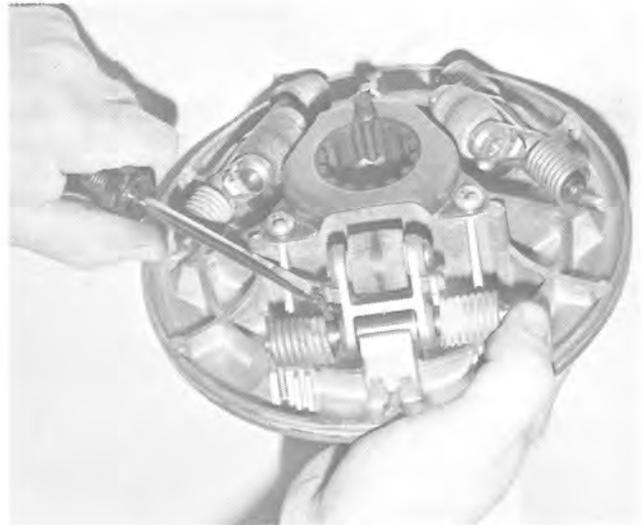

FIG. 4-9
8. Detaching springs and weight arm retainers will allow weight arms to be removed. (See Figures 4-9, 4-10, 4-11.)